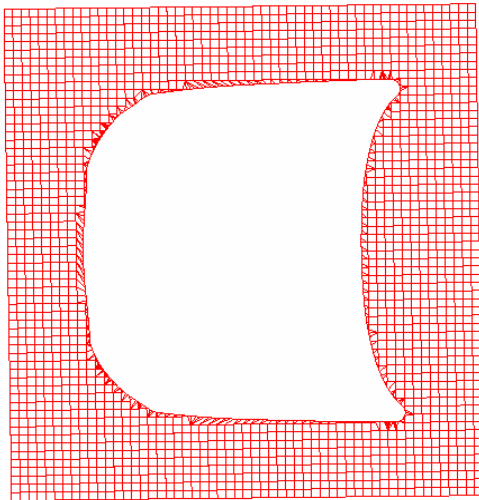

Figure 50 Binder after Trimming
9. Click **Yes** button to confirm the selection. The binder is trimmed as illustrated in Figure 50.